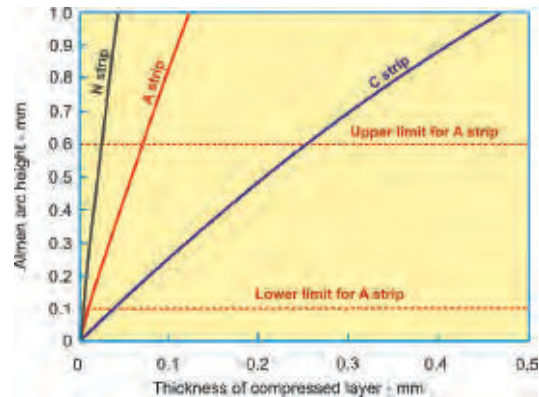

Fig.10 Predicted effects of strip and layer thicknesses on resulting Almen arc height.
Equation (10) shows that the critical factors governing arc height are hardness (affecting σ and **d**), **elastic modulus and strip thickness**. The equation can be used to predict the effects of any of the several factors involved. Assuming, for example, that $\sigma = 800\text{MPa}$ and $E = 201\text{GPa}$, equation (10) yields the curves shown in fig.10 for N, A and C strips (using average thicknesses). The curves reveal, for example, the virtual linearity of arc height versus layer thickness within the limits prescribed by J443.